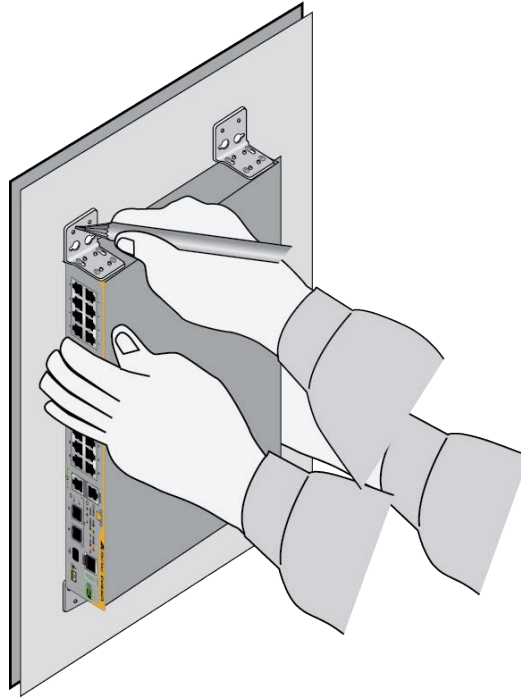

Figure 63. Marking the Locations of the Bracket Holes
4. Have another person hold the switch on the wall at the selected location for the device while you use a pencil or pen to mark the wall with the locations of the screw holes in the brackets. Refer to Figure 63 on page 104.